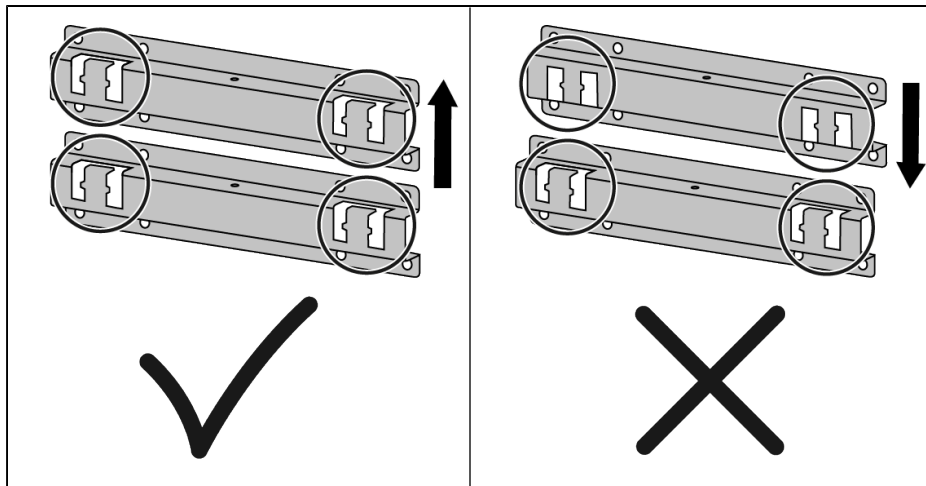
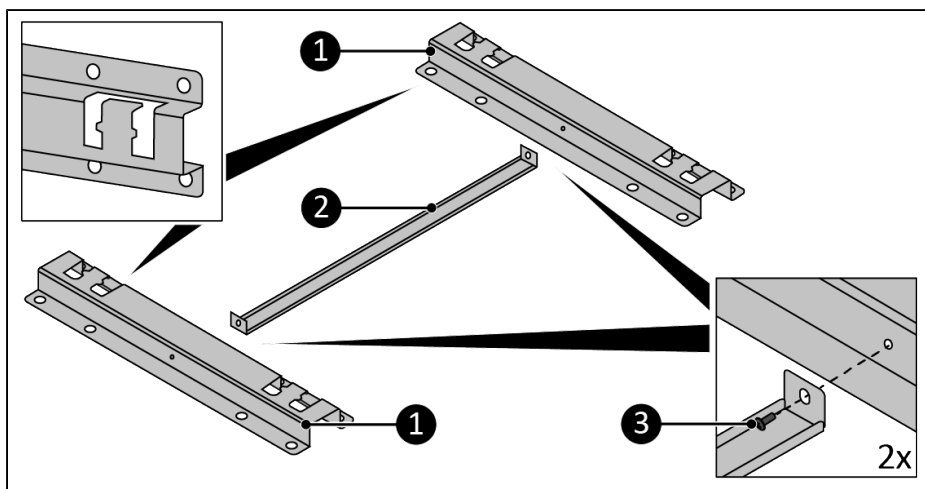

Figure 30.
Figure 31.
Make sure the openings of both brackets point upwards, see Figure 30 and Figure 31 for reference.
1. Mount the distance holder (Figure 31, pos. 2) to the brackets (Figure 31, pos. 1) using the 2 M4 12mm screws (Figure 31, pos. 3).